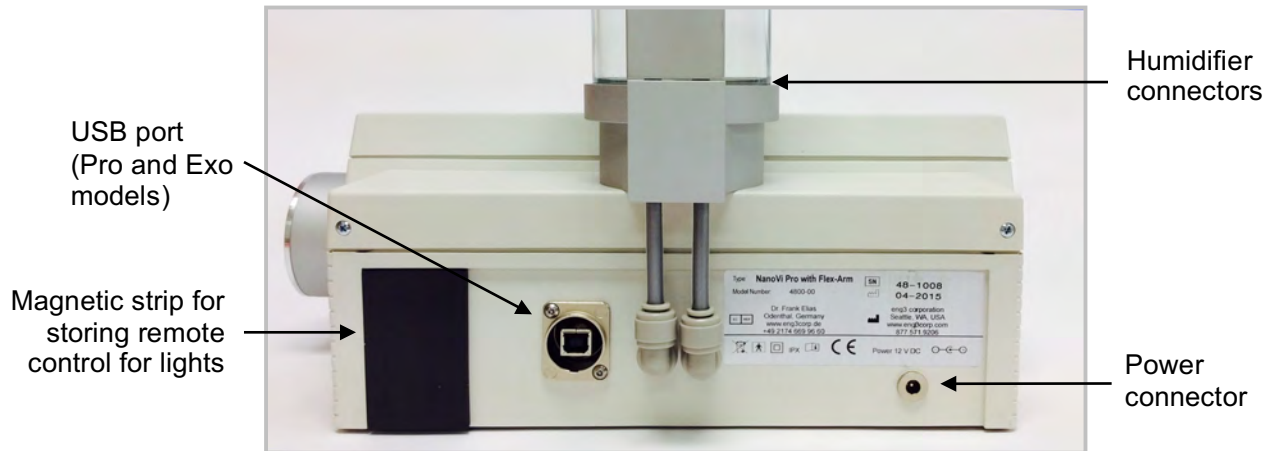

Figure 1.2: Back view of the NanoVi™ device
6. Connect the power cord to the power supply. Plug the power supply into the NanoVi™ device. Note Figure 1.2 to locate the power connector on the back of the device. Plug the power cord into an electrical outlet.